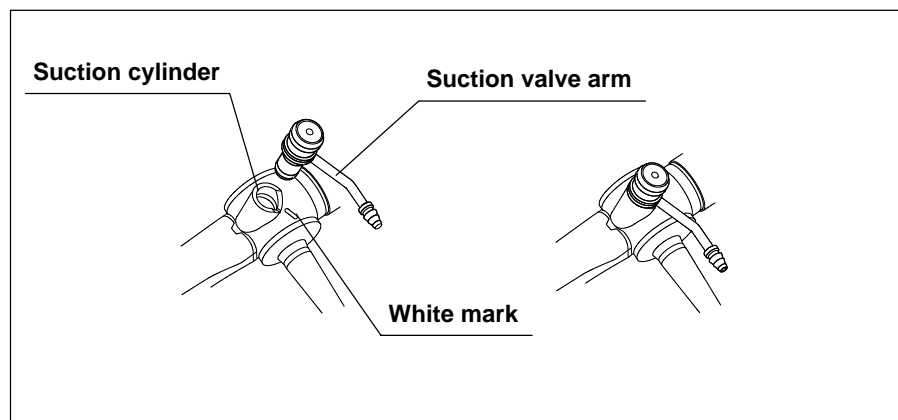

Figure 3.5
1. Insert the suction valve into the suction cylinder, then align the arm of the main body with the white mark on the endoscope (see Figure 3.5).